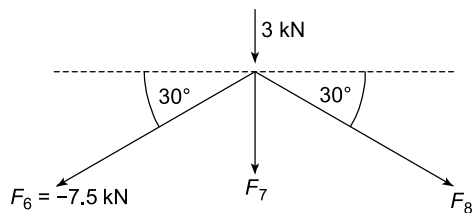

Figure 7.38
Consider joint (4); see Figure 7.38.